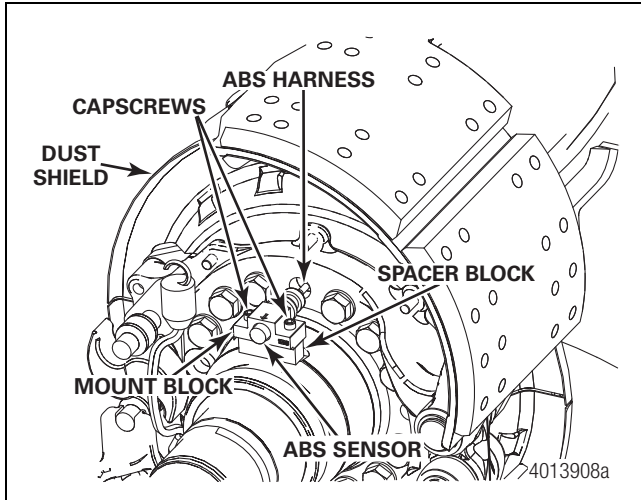

Figure 17.3
5. If removed, reinstall the ABS sensor and mounting blocks as follows. Figure 17.3.